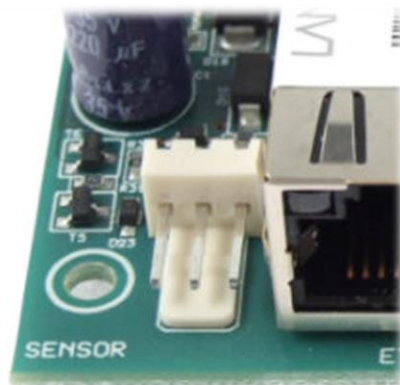

Fig. 8 – connector for the thermometer (here: Quido ETH 4/4)
- 3) If your Quido enables connection of a thermometer, the board includes a connector (with three terminals - see Fig. 8) labelled SENSOR (or TEMP). Here you can connect the temperature sensor. (The thermometer needs to be connected only if you want to measure temperature or use one of the functions of temperature monitoring.)⁵